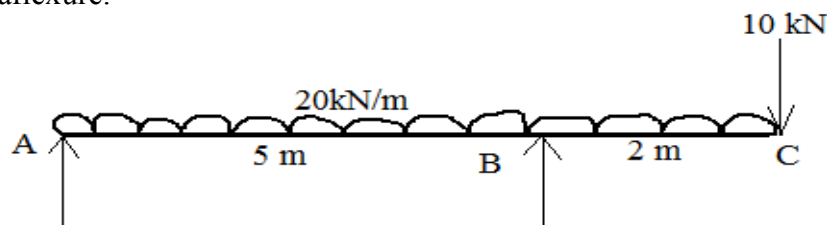

Fig. 1
| 5 | A simply supported beam ABC with supports at A and B, 5m apart with an overhang BC 2m long carries a uniformly distributed load of 20 kN/m over the whole length as shown in Fig.1. Draw S.F and B.M diagrams and locate the point of contraflexure. | (10) |